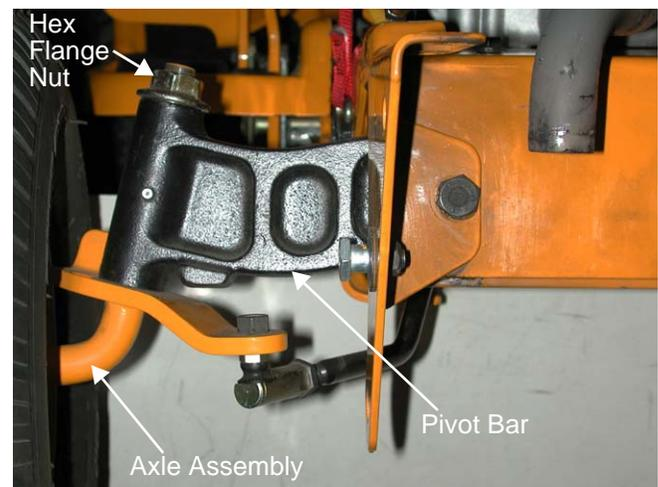

Figure 37.12
37.12. Loosen the large hex flange nut or remove the push cap securing the right axle assembly to the pivot bar using a 15/16" socket. See Figure 37.12.